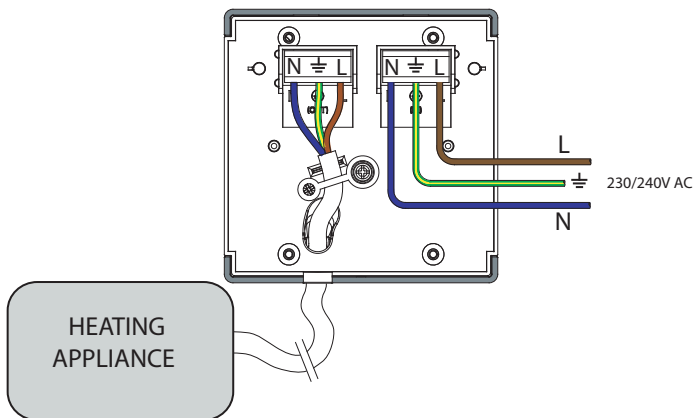

Fig. 5
- The cable of the heating appliance is fed through an opening on the underside of the Receiver unit - see **Fig. 5**.
- The cable from the heating appliance is then wired to the terminal block labelled (out). Please ensure the wires are connected in accordance with the marked terminals - see **Fig. 5**.
- Connect the fixed wiring of the premises (via a local isolation switch or RCB) from the backing box to the clearly marked terminals on the Receiver unit (see **Fig. 5**). Please ensure that the unit is earthed to the backing box.
### Receiver Wiring - see Fig. 5